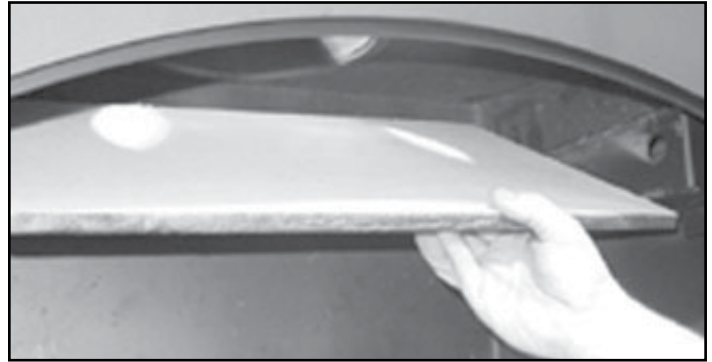

Figure 31.3 Removing Baffle (shown without ceramic blanket)
6. Slide fiber board baffle forward to front of fireplace and straight out through door. See Figure 31.3.